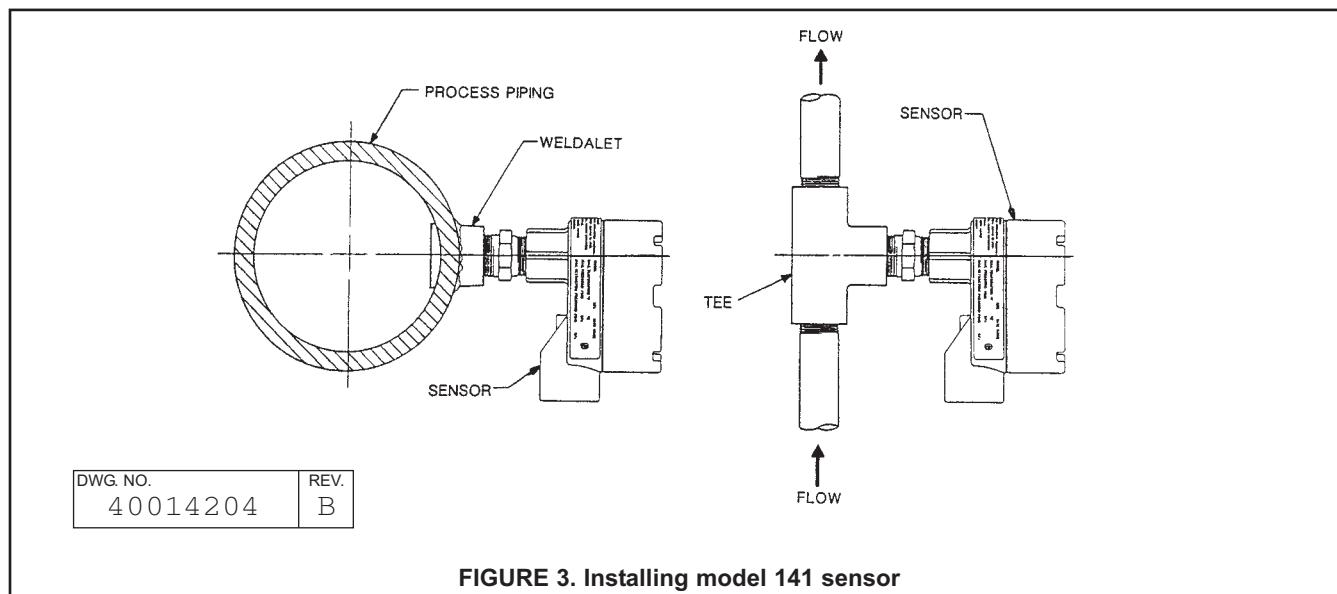

FIGURE 3. Installing model 141 sensor
3. Screw the sensor into the fitting. Use pipe tape on the threads. See Figure 3.